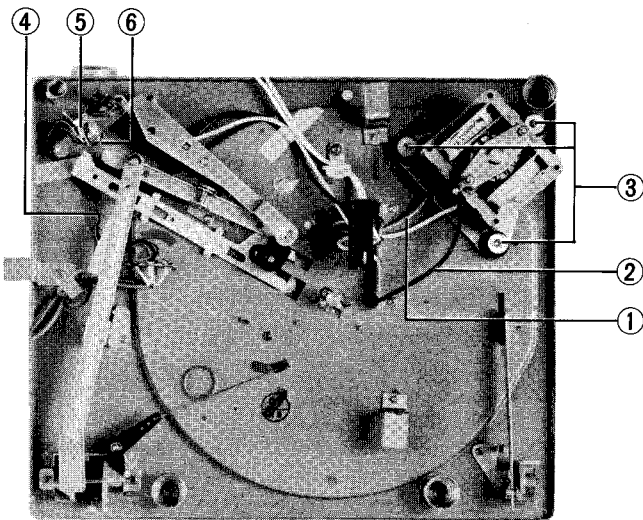

Fig. 28
- 1) Remove three wires ①, ② from motor terminals (Fig. 28).
- 2) Remove three screws 3 (Fig. 28).
2. Replacement of Pick-up Arm (Fig. 28,29)